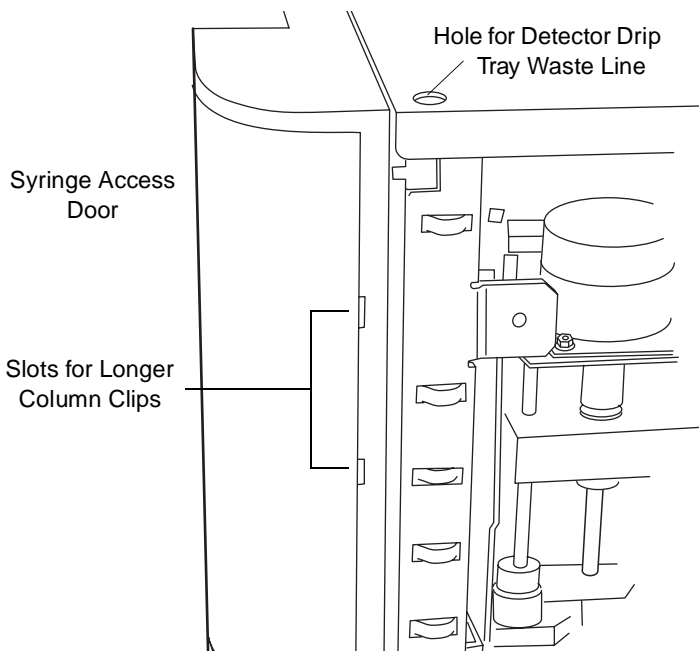

Figure 2-7 Side View of Frame Openings for Fluidic Connections (Side Panel Removed)
6. Pass the tubing through the hole in the top panel (see Figure 2-7) and into the syringe compartment. Position the end of the tubing on the drip tray below the syringe compartment.
Two sets of column clips and M4 × 10 screws are included in the Startup Kit. You can mount columns up to 7.9 mm OD and 15 cm long in the compartment behind the syringe door on the front panel by using the shorter clips. To use longer columns, mount the longer column clips so they protrude from the side of the Separations Module through the slots shown in Figure 2-7.